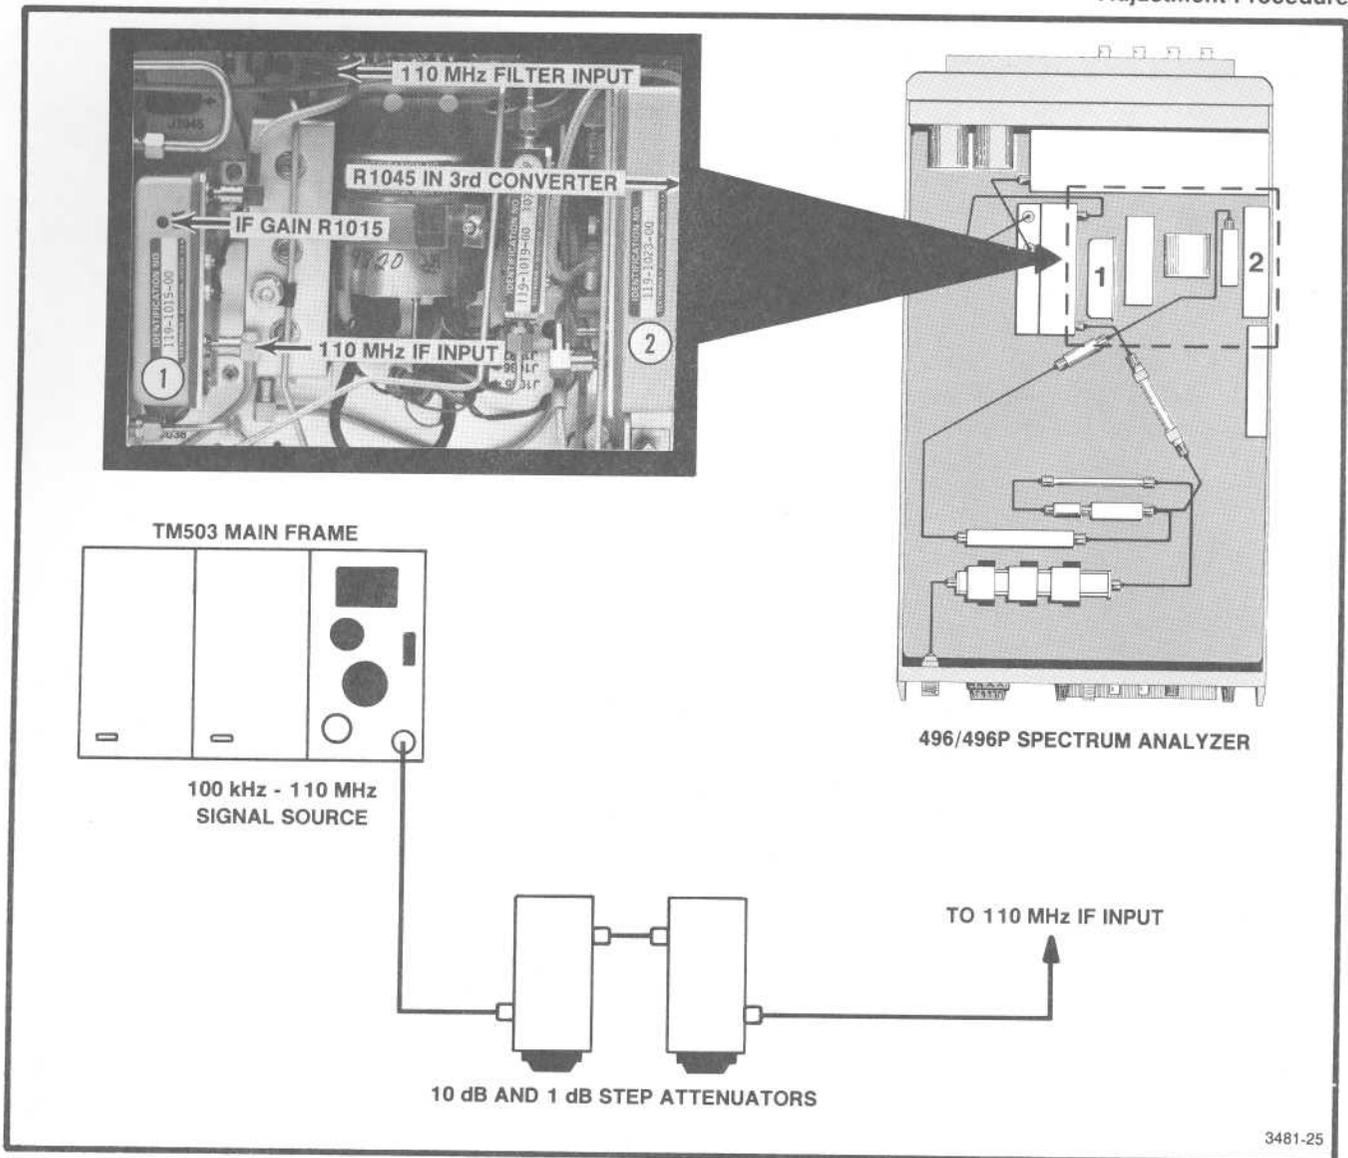

Fig. 3-41. Test equipment setup for adjusting IF gain.
The calibrator output level is calibrated to a known reference. The procedure for checking the level is described in step 3 of the Performance Check part. Output level is adjusted with Cal Level, R1045 (Fig. 3-41). An adjustable capacitor, C3031 within the cover, is only adjusted if the oscillator fails to start. It is adjusted for maximum output. If the Cal Level adjustment (R1045) should run out of range, change the value of select resistor A34A1R1018.
a. Set the RESOLUTION BANDWIDTH to 100 kHz, REF LEVEL to -20 dBm, and apply a -21.5 dBm, 110 MHz signal through the step attenuators to the input (J365) of the 110 MHz filter (Fig. 3-41).
d. Set the step attenuators for 21 dB; then apply the 110 MHz signal to the input (J321) of the 110 MHz IF amplifier (Fig. 3-41).
h. Set the 110 MHz IF Gain R1015 (Fig. 3-41) fully clockwise (maximum gain) and set the front panel AMPL CAL fully ccw.